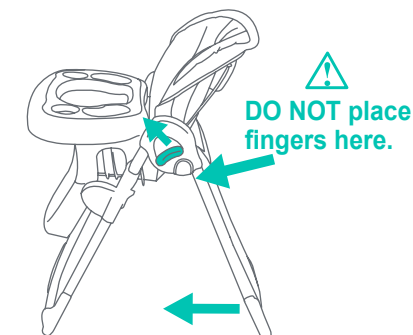

Fig. 19
- 19) • Pull upward on the release levers (located on the sides of the frame) and push the rear legs in the direction of the front legs until folded (Fig. 19). Chair is now ready to put away.
Read the Warning and see (Fig. 19), then Reverse the steps above.